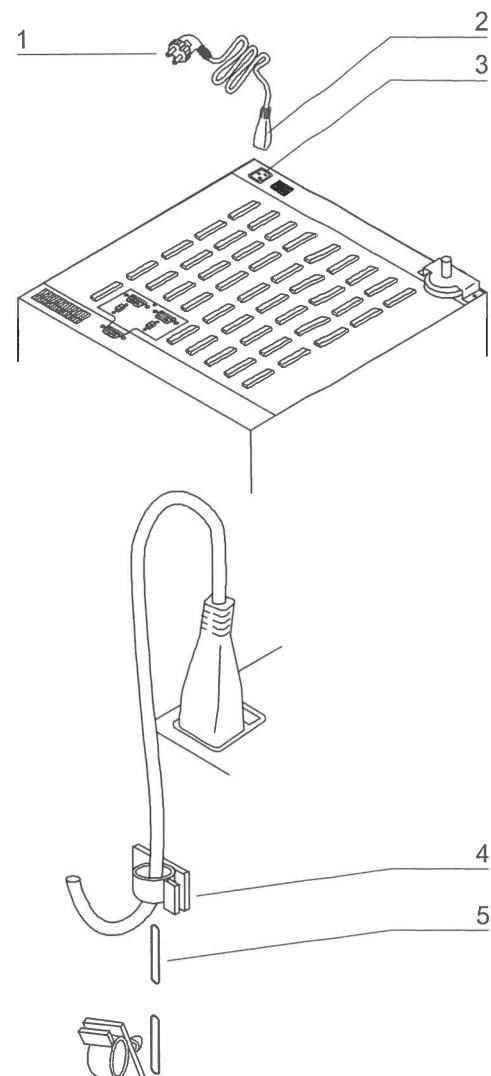

Fig. 21,
1. Before connecting the device to the power supply, check to see if the voltage of the power supply corresponds with the specifications on the nameplate at the front of the device below the glass door. If the ratings given for voltage (V) and current (A) are not correct, the device must not be connected to the power supply.
2. **Fig. 21:** Connect the connector for non-heating appliances [2] to the socket [3] of the device.